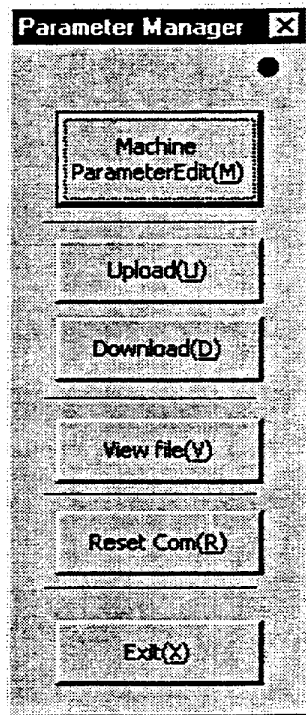

Figure 7.27 "Parameter Manager" dialog box
Click "*Parameter (M)*" under "MainMenu" to display the "Parameter Manager" dialog box (see Figure 7.27).